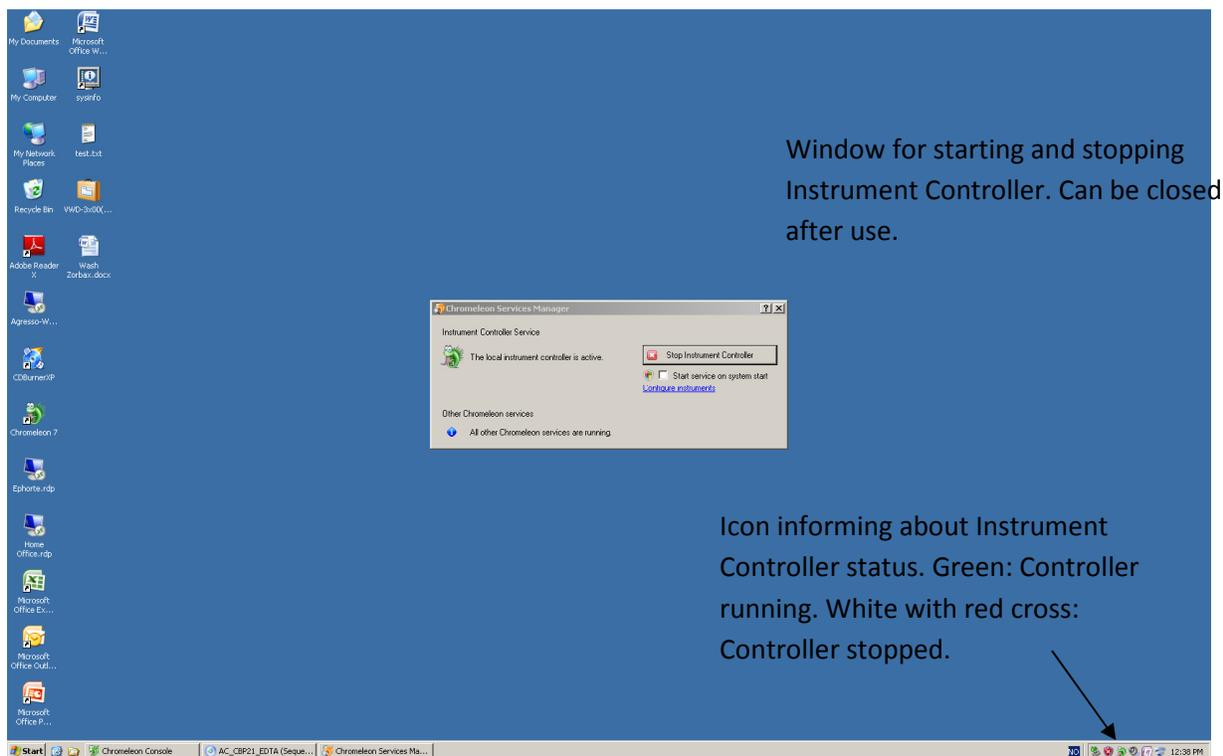

Figure 2: Instrument Controller. Software unit that controls communication between computer and HPLC. Must be running at all times when system is operated.
Communication between the computer (CM) and the HPLC is controlled by the Instrument Controller Software found under the Start Menu/Programs/Chromeleon/Service Manager. Alternatively, double click the Chromeleon Icon in the Windows task bar to open the Instrument Controller (figure 2). When the HPLC is to be controlled/operated the Instrument Controller must be running. Starting and stopping is done by pressing the command “Start/Stop Instrument Controller” (figure 2). The window can be closed afterwards. The Instrument Controller does not start automatically after a computer restart and it should therefore be checked that it is running, before starting operation.